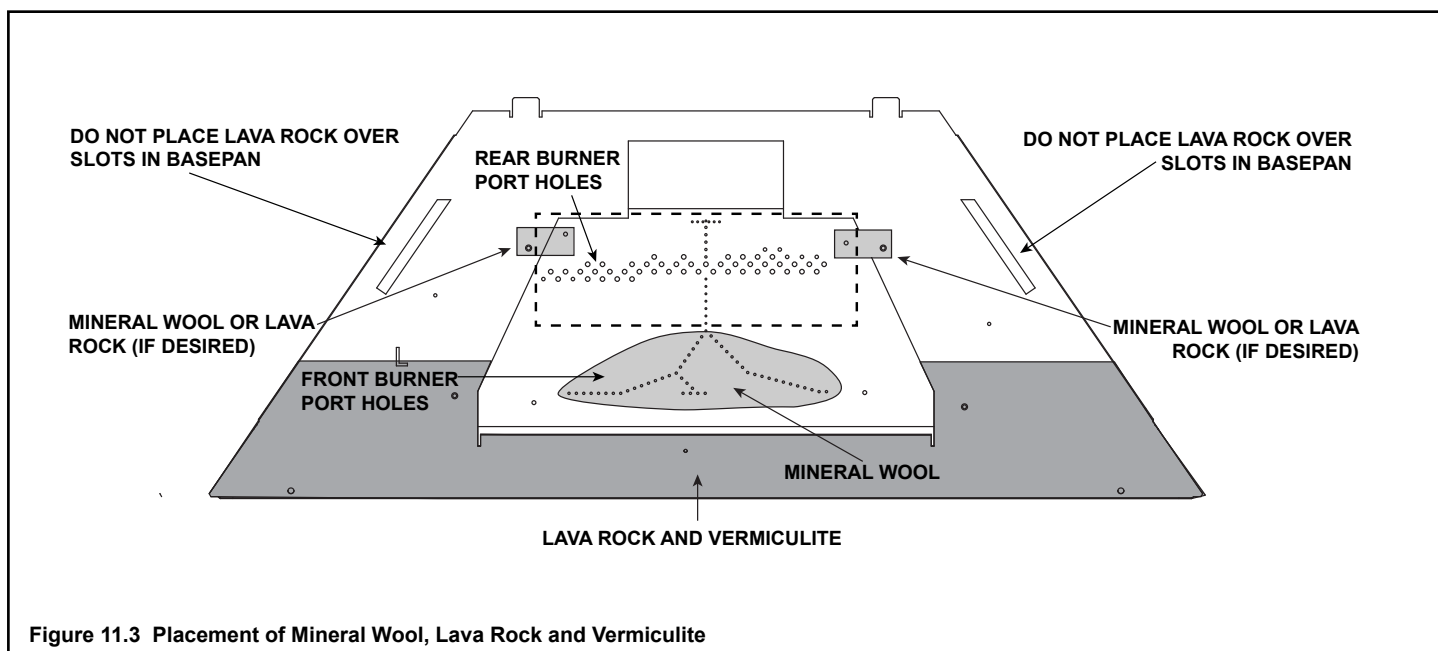

Figure 11.3 Placement of Mineral Wool, Lava Rock and Vermiculite
- Place a small amount of 1/2 in. diameter pieces (dime-size) mineral wool on the burner pan as shown in Figure 11.3. The mineral wool may be placed loosely over the front burner port holes in the burner pan. **Do NOT** press them onto or into the burner port holes. This will provide the “glowing embers” look.
Place the lava rock in an even layer just heavy enough to cover the metal surface. Stay within the zone indicated in Figure 11.3. It is not necessary to use the entire bag. Save the remaining amount for future use.
Spread vermiculite in a light, even pattern on top of lava rock. Stay within the zone indicated in Figure 11.3. It is not necessary to use the entire bag. Save the remaining amount for future use.